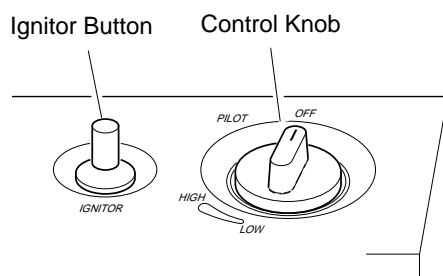

Figure 16 - Control Knob In The OFF Position
4. Wait five (5) minutes to clear out any gas. Then smell for gas, including near the floor. If you smell gas, STOP! Follow "B" in the safety information on page 10, column 3. If you don't smell gas, go to the next step.
5. Press in control knob and turn counterclockwise  to the PILOT position. Keep control knob pressed in for five (5) seconds (see Figure 16).